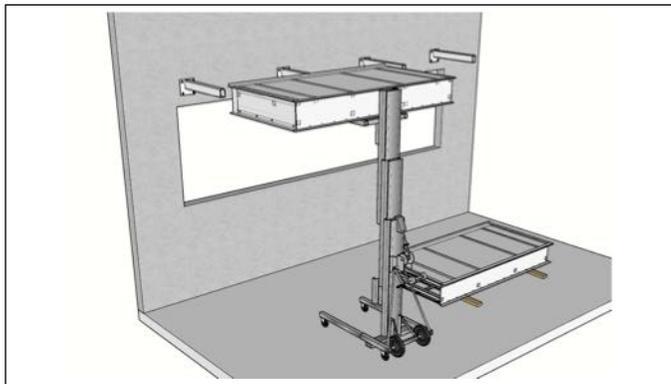

Fig 7
5. Place canopy on lift in front of the outriggers (Fig 7) lift up until lined up with outriggers. Slide canopy to the wall onto the outriggers through the holes in the back channel (Fig 8).